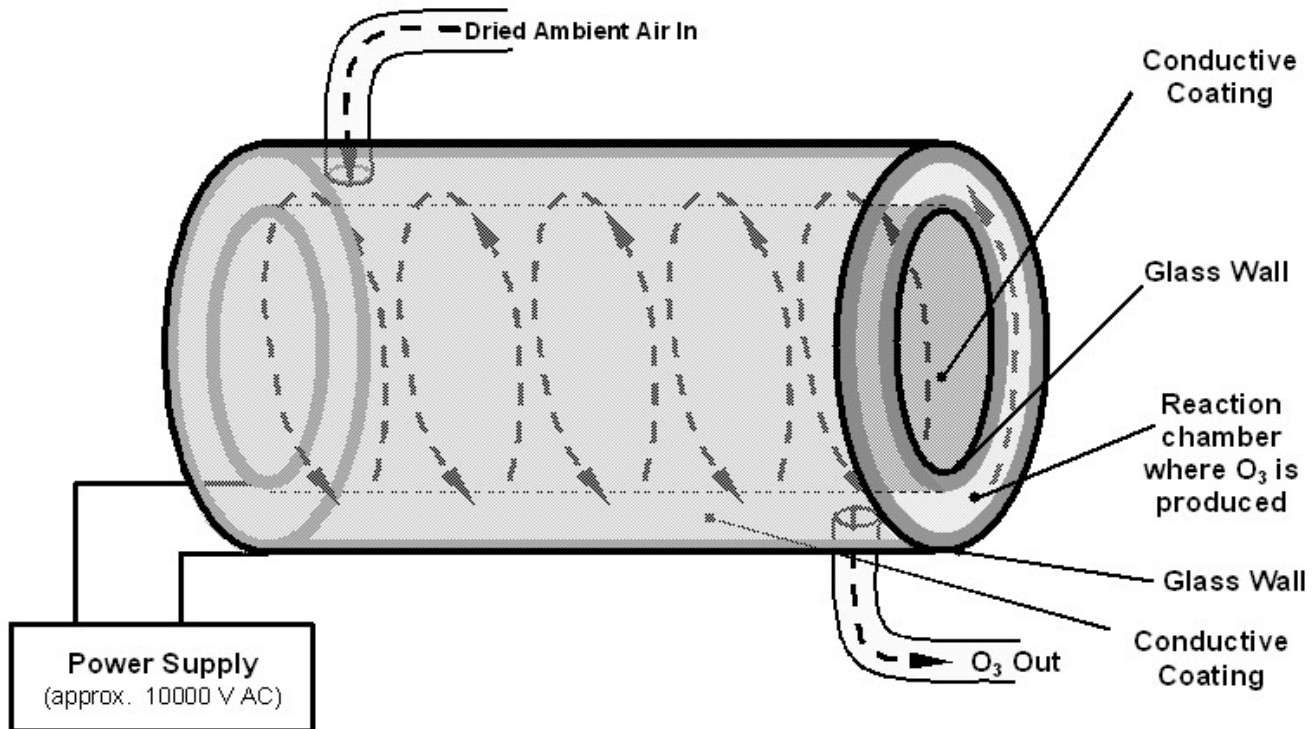

Figure 8-9: Ozone Generator Principle
The T200H/M uses a corona discharge (CD) tube for creating its O₃. Corona discharge generation is capable of producing high concentrations of ozone efficiently and with low excess heat. Although there are many cell designs, the fundamental principle remains the same (Figure 8-9).